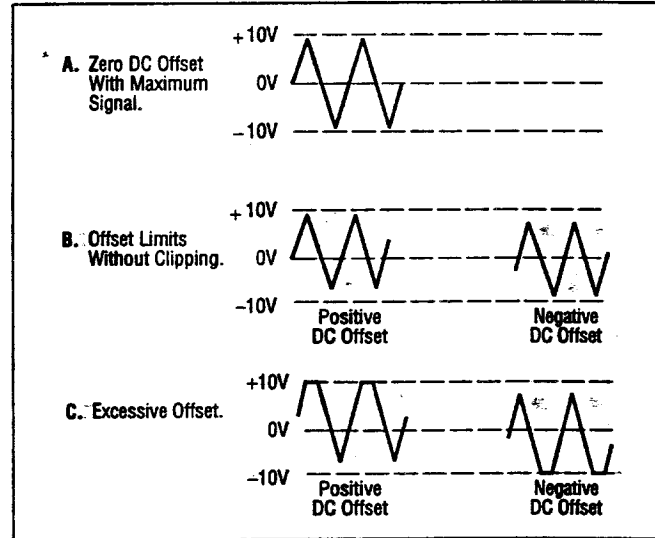

Figure 3. Use of DC OFFSET Control
6. Adjust the amplitude of the output as desired using the **OUTPUT LEVEL** control (4). Rotation of this control varies the amplitude from maximum to 20 db below maximum. An additional attenuation of -20db is available by pushing in the **-20dB** switch (11). The attenuation factors can be combined for a total of -40db. The maximum signal level is 10 V p-p (into 50 Ω).
7. A superimposed DC component can be added to the output signal by engaging the DC OFFSET switch (12) to enable operation of the DC OFFSET control (5). Rotation of this control adds a positive or negative DC component to the output signal. The DC component introduced is independent of the OUTPUT LEVEL control and can be varied by ± 10 volts open circuited or ± 5 volts into 50Ω . The DC Offset does not affect the TTL/CMOS output jack. The effect of DC OFFSET is shown in Fig. 3.
6. Remember that the output signal swing of the generator is limited to ± 10 volts open circuited or ± 5 volts into 50Ω , and applies to the combined peak-to-peak signal and DC offset. Clipping occurs slightly above these levels. Fig. 3 illustrates the various operating conditions encountered when using the DC offset. If the desired output signal is large or if a large DC offset is required, an oscilloscope should be used to make sure that the desired signal is obtained without undesirable clipping.